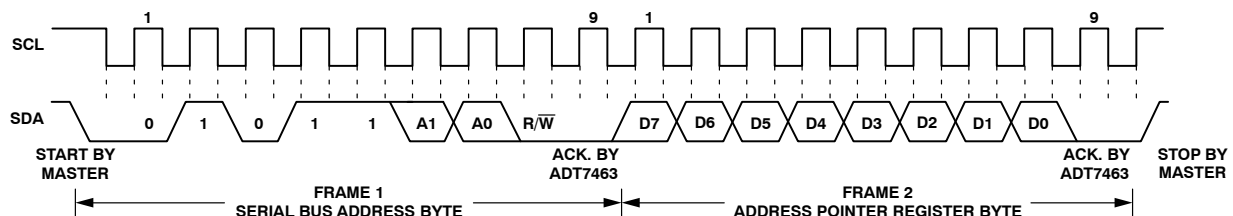

Figure 18. Writing to the Address Pointer Register Only
1. If the ADT7463's address pointer register value is unknown or not the desired value, it is first necessary to set it to the correct value before data can be read from the desired data register. This is done by performing a write to the ADT7463 as before, however, only the data byte is sent and this contains the register address. This is shown in Figure 18.
2. If the address pointer register is already at the desired address, data can be read from the corresponding data register without first writing to the address pointer register, so Figure 18 can be omitted.